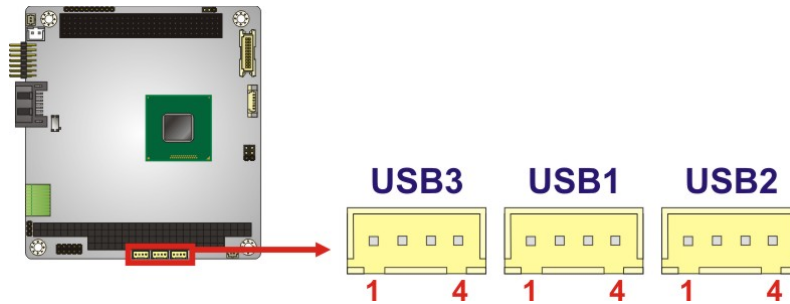

Figure 3-22: USB 2.0 Connector Locations
- CN Location:** See **Figure 3-22**